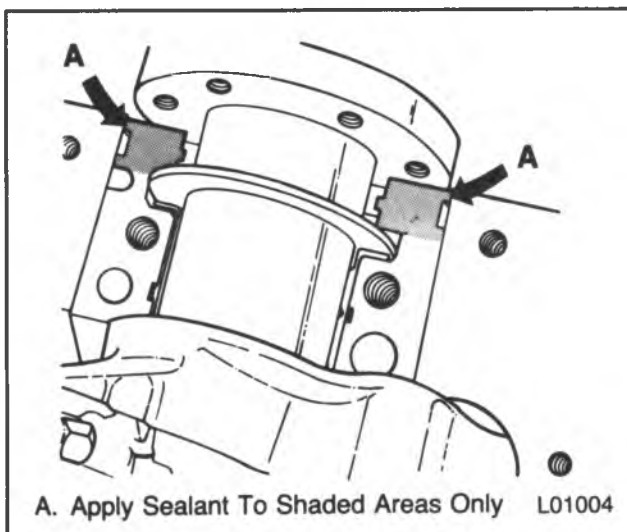

Figure 22 — Applying Sealer to the Block
- Apply a brush-on type oil sealing compound to the mating surface of the block and cap (figure 22). Do not allow any sealant on either crankshaft or rear oil seal.